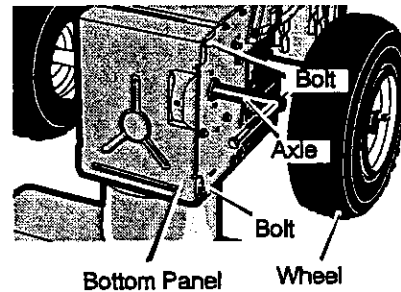

Figure 40
4. Remove the fasteners that secure the right wheel. Remove the right wheel from the axle (see Figure 40)
19. Install the bottom panel (see Figure 40).